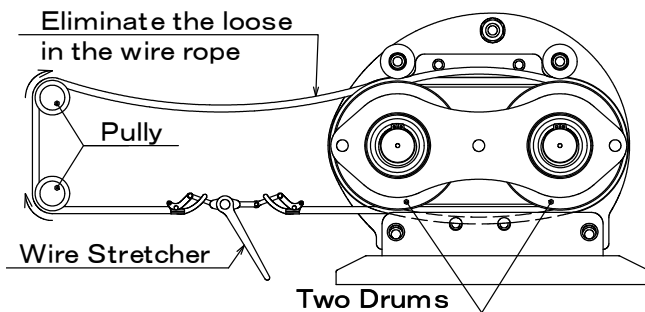

Figure 7-1 Tightening the endless wire rope
- (4) Wire ropes that are wound just by your hands are loose.
a. When using an endless wire rope, remove the looseness of the wire rope by sufficiently tightening it with a wire stretcher. (Refer to Figure 7-1)